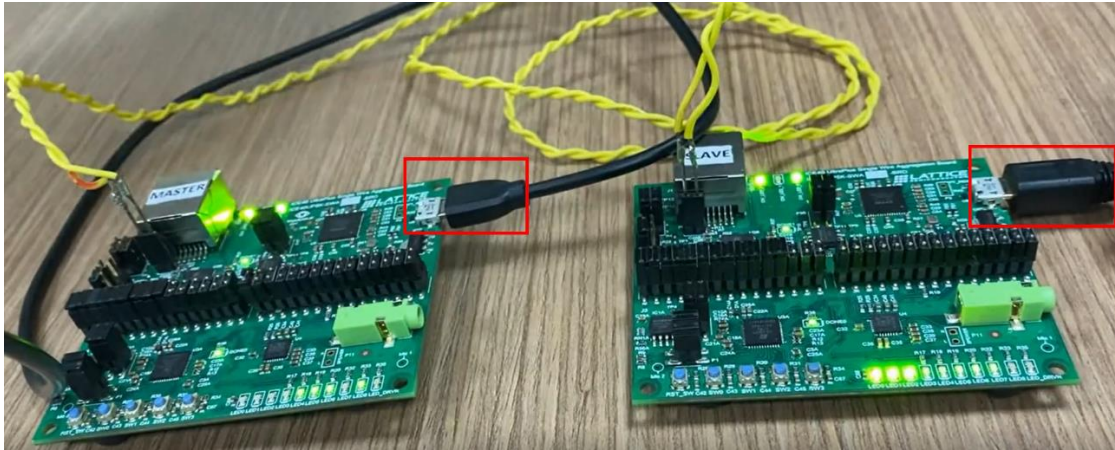

Figure 8.13. Connecting USB power cable.
8. Power-up the SWA board by connecting USB power cable as shown in Figure 8.13.